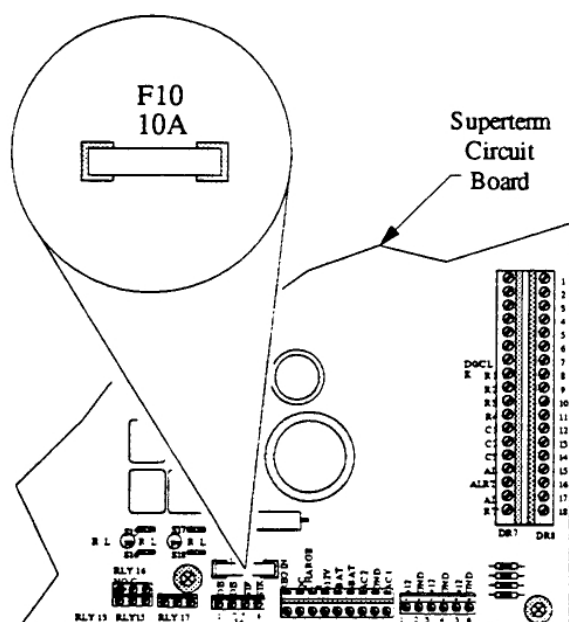

Figure 51 - Superterm Main Fuse Location
A 10-ampere (10A) slow-blow fuse protects the Superterm main circuit board from voltage/amperage surges. The fuse is located on the lower right-hand edge of the circuit board above the STKPWR terminal strip (see Figure 51).
- 2) Using a non-conducting fuse puller, remove the old fuse (see Figure 51).